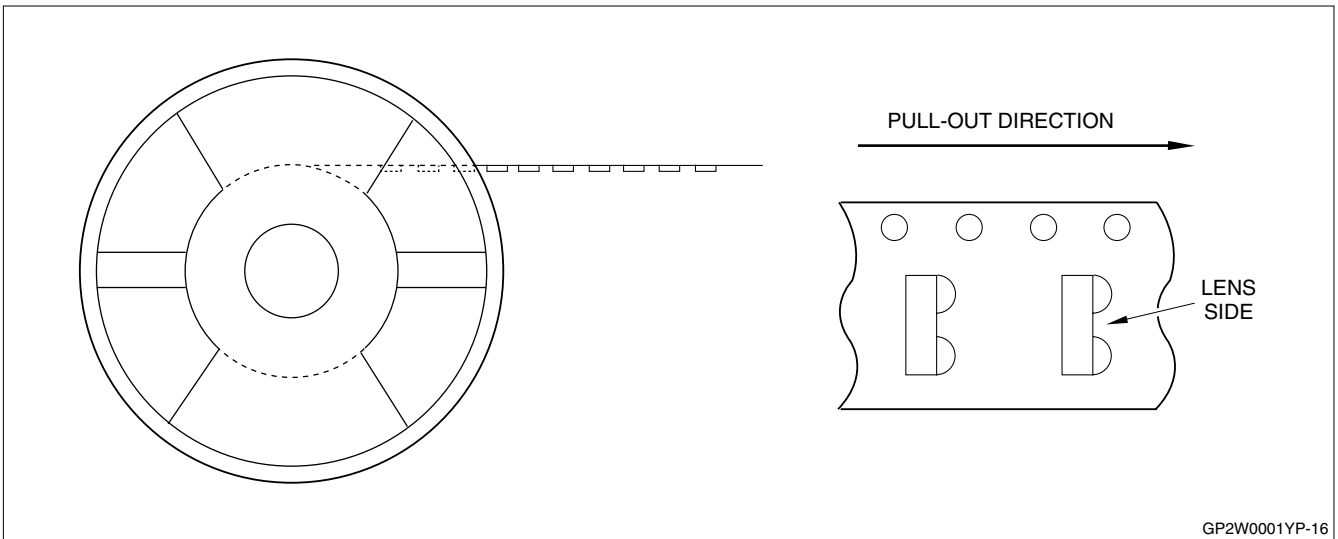

Figure 16. Direction of Product Insertion
- Direction of product insertion: Product direction in carrier tape should be such that electrode side of product is placed on the cover tape side and lens side of product is placed on the hold side of the tape. See Figure 16.